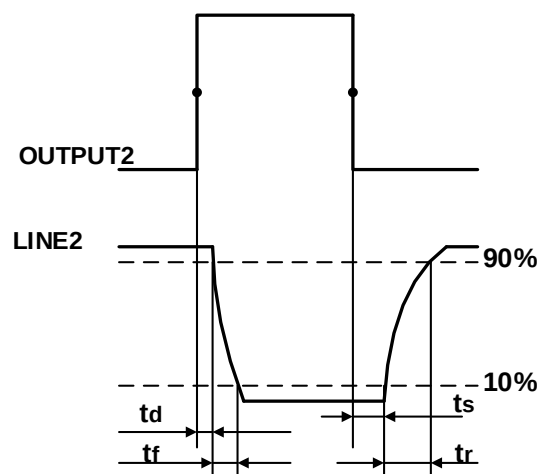

Figure 7-24 Parameter of Line2 output circuit
- Rising time delay =  $t_d + t_f$ :  $<20\mu s$  ( $0^\circ C \sim 45^\circ C$ ) (parameter description as shown in Figure 7-24)
- Falling time delay =  $t_s + t_r$ :  $<20\mu s$  ( $0^\circ C \sim 45^\circ C$ ) (parameter description as shown in Figure 7-24)